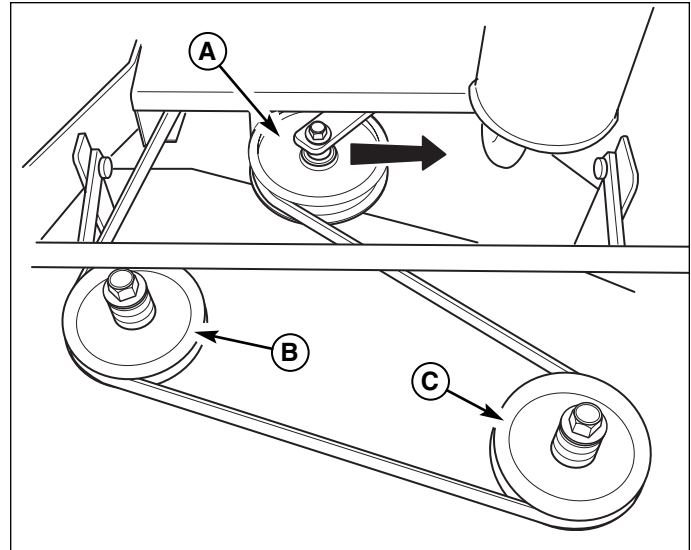

Figure 15. Mower Deck Drive Belt
3. Push the idler arm towards the left-hand side of the machine to release the spring tension on the drive belt. (See Figure 15)
4. Slide the drive belt over the edge of the idler pulley (A). Release the idler arm.
6. Install the drive belt on the spindle pulleys and the PTO clutch pulley. Again, push the idler arm towards the left-hand side of the machine and install the belt onto the idler pulley (A).